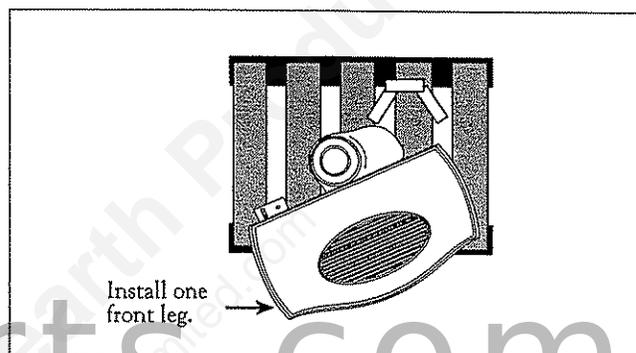

Figure 3.
Step 2. Carefully pivot the stove until one front corner overhangs the pallet enough to attach a leg to the stove. Remove the hex head leg bolt from the stove bottom and use it together with a flat washer to attach the leg to the stove. Fig. 3.